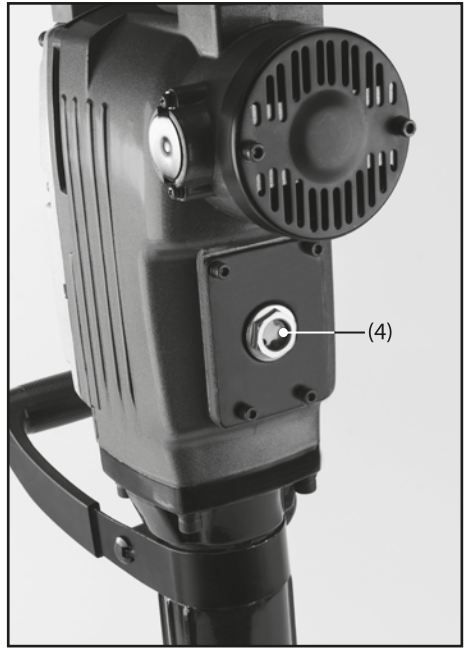

FIG.4
- FIG. 4
To check, hold the tool vertically and rest on the floor. The sight glass window (4) is situated underneath the product, Fig.4. When the oil level is 2-3mm above the bottom of the sight glass window the oil must be refilled.